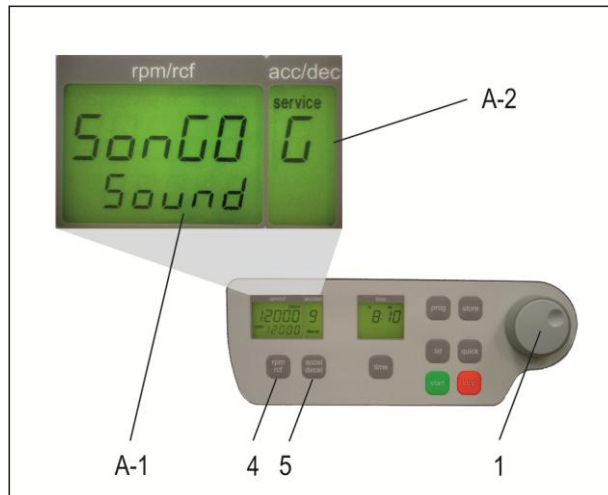

Figure 7
Proceed as described under point 1.8.2 to enter this program mode and then press the key „accel/decel“ (5). In the display „accel/decel“ (A-2) flashes the word „service“. Now select the letter „G“ with the adjusting knob (1). As a result appears in the display „rpm/rcf“ (A-1) the word „SonGo/Sound“. After pressing the key „rpm/rcf“ (4), you can select a song with the adjusting knob (1). (see figure 7).